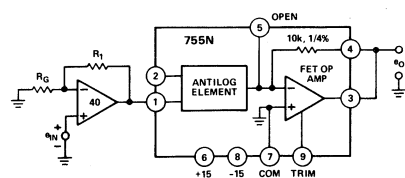

Figure 6. Method for Adjusting $K < 2/3V$
Scale Factor (K) Adjustment – The scale factor may be adjusted for all values of K greater than 2/3V by the techniques described in the log section. If a value of K, less than 2/3V is desired for a given application, an external op amp would be required as shown in Figure 6. The ratio of the two resistors is approximately: